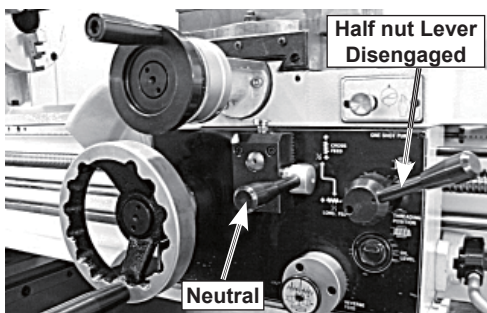

Figure 19. Apron disengaged.
- Disengage the half nut lever, put the feed control lever in neutral, and make sure the carriage lock bolt is loose as shown in Figure 19.